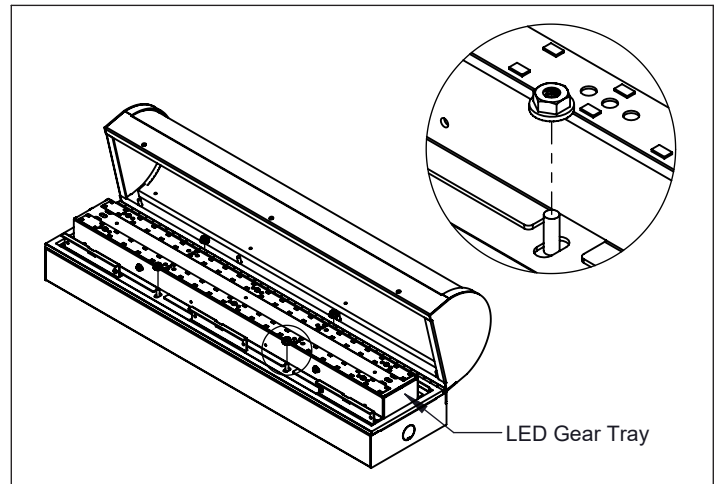

Figure 2
2. Remove nuts and pull LED gear tray out of fixture. Remove necessary K.O. that best suits installation before mounting (Fig. 2)